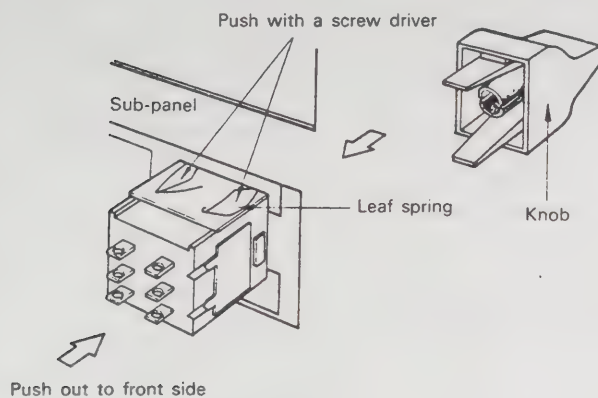

Fig. 18
- 3) Extract the spring plate of the paddel switch up to the subpanel front, while pushing its tip with a screwdriver (refer to Fig. 18).
- 4) When the normal paddel switch is inserted into the subpanel from the front, it is fixed to the subpanel by means of the spring plate. To replace the knob of the paddel switch, insert the tip of a thin driver into a gap of the switch and detach the knob by utilizing the principle of the lever and then insert a normal knob (refer to Fig. 18).